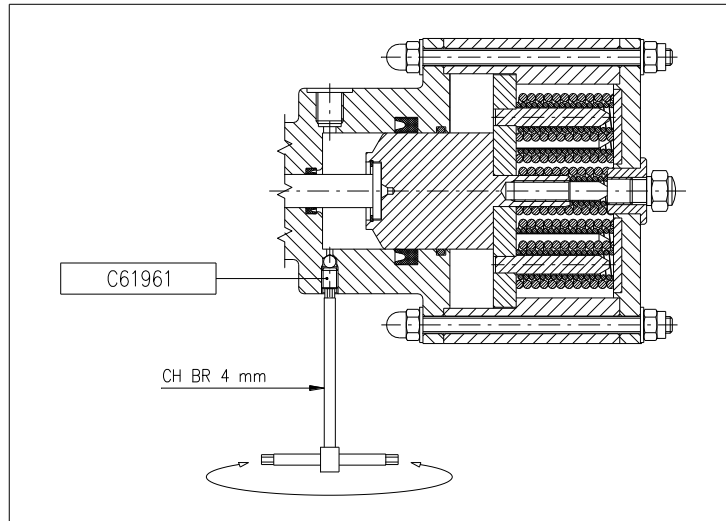

Figure 4
- HYDRAULIC BRAKES:** Bleed air out of the oil circuit by loosening the grub screw C61961 with a n. 4 Allen key, until oil begins to come out. When all the air has been bled out tighten the grub screw again (Figure 4).